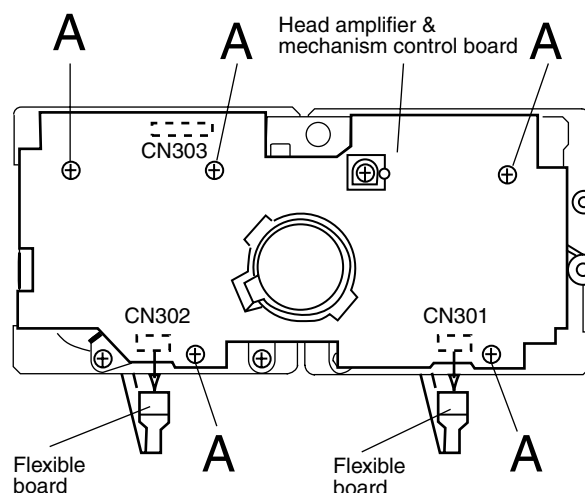

Fig.4
■ Removing the head amp. and mechanism control board (See Fig. 4)